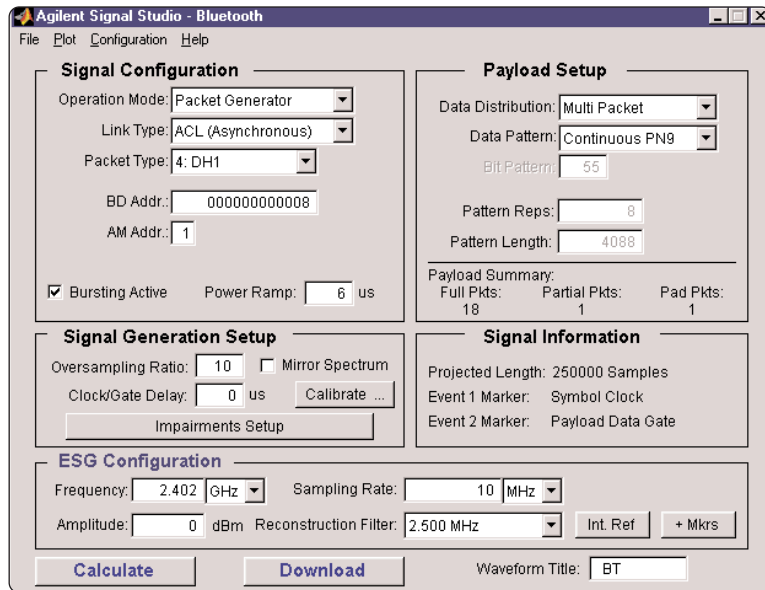

Figure 32. Signal Studio configured to create a DH1 mult packet sequence with continuous PN9 data spread over the user payload portion of the sequence.
- Use Signal Studio to configure a DH1 multi packet sequence that contains a continuous PN9 data distributed over the user payload portion of the packet sequence, Figure 32. Do not add impairments to the signal when performing the initial calibration. Once configured, select the Calculate button.